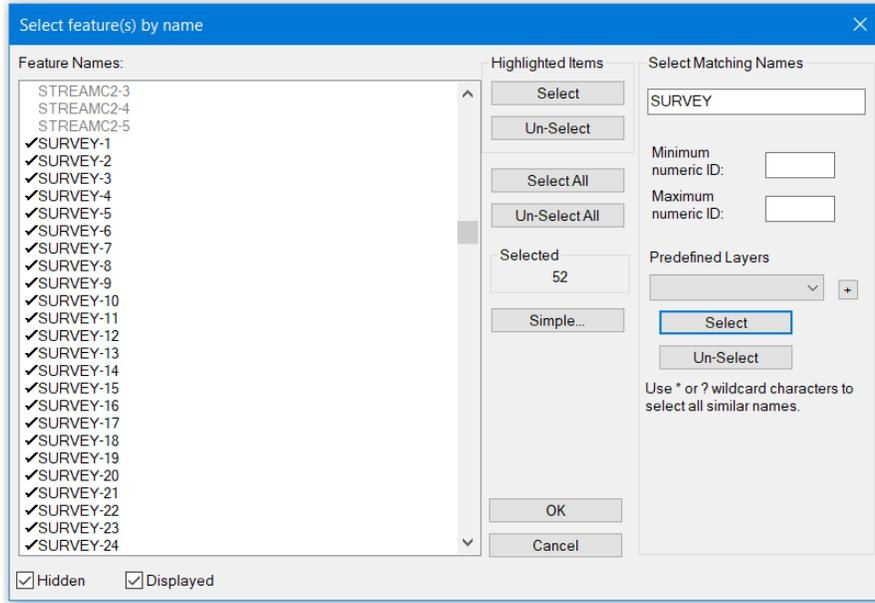

Figure 3-10: Select Feature(s) by Name Dialogue
3. Within the Select feature(s) by name dialogue box press the Advanced... button | Type “Survey” in the Select Matching Names | Select button. 52 items should come up as Selected. Press OK. The Selected feature(s) by name dialogue box should appear as in Figure 3-10.